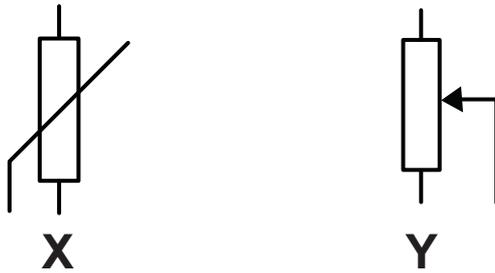

Fig. 8
- (b) (i) Name the two electronic components represented by their symbols, labelled **X** and **Y** in **Fig. 8** below.